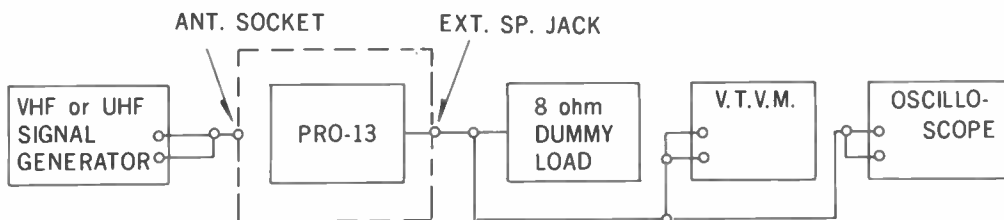

Figure 3. RF ALIGNMENT CONNECTION DIAGRAM
- STEP 1. Connect the instrument as shown in Figure 3.
STEP 1. Connect the instruments as shown in Figure 3.